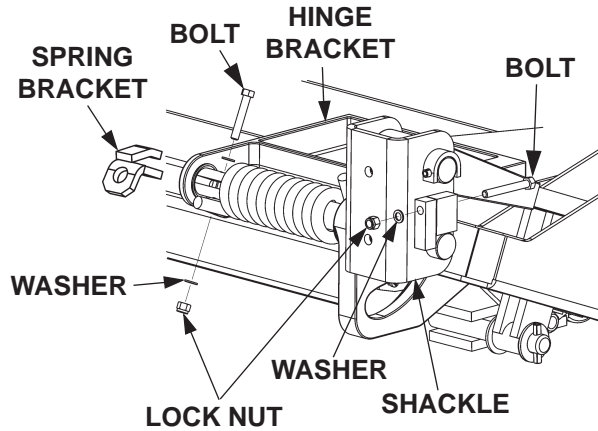
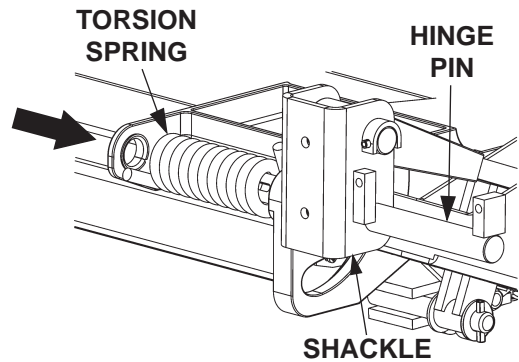

FIG. 20-1
FIG. 20-2
4. Unbolt Hinge Pin from Shackle and Spring Bracket (FIG. 20-1). Remove bolts, washers, and lock nuts. Drive the Hinge Pin outboard toward the Shackle just enough to free the torsion spring (FIG. 20-2). Remove the Torsion Spring.